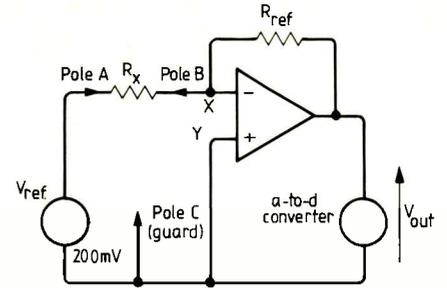

Fig. 6. Resistance ( $R_x$ ) measurement in basic form.
**Resistance measurement.** A simple example of how tests are modified to cope with certain measurement conditions is the resistance test. The theoretical measurement circuit is shown in Fig.6.  $R_x$  is a resistor in the range  $400\Omega$  to  $20M\Omega$ . The high gain and high input impedance of the operational amplifier results in points X and Y being equipotential. Provided that system switch, lead and contact resistance are negligible compared with  $R_x$ , the gain equation of the operational amplifier is